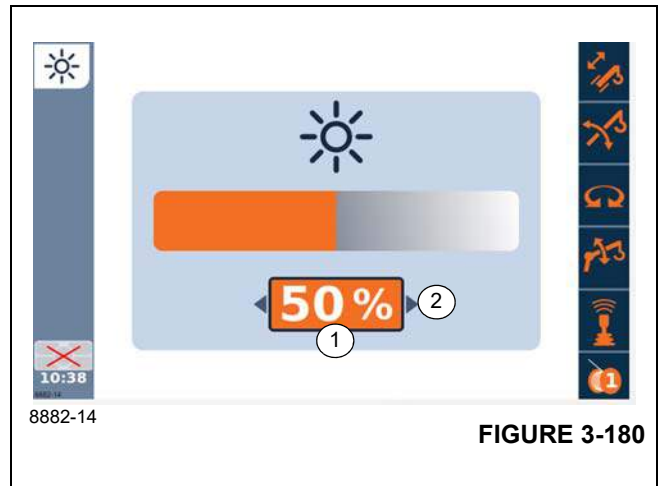

FIGURE 3-180
- Select the symbol (1), (Figure 3-180).
An arrow appears on the left and right of the percentage (2), (Figure 3-180).